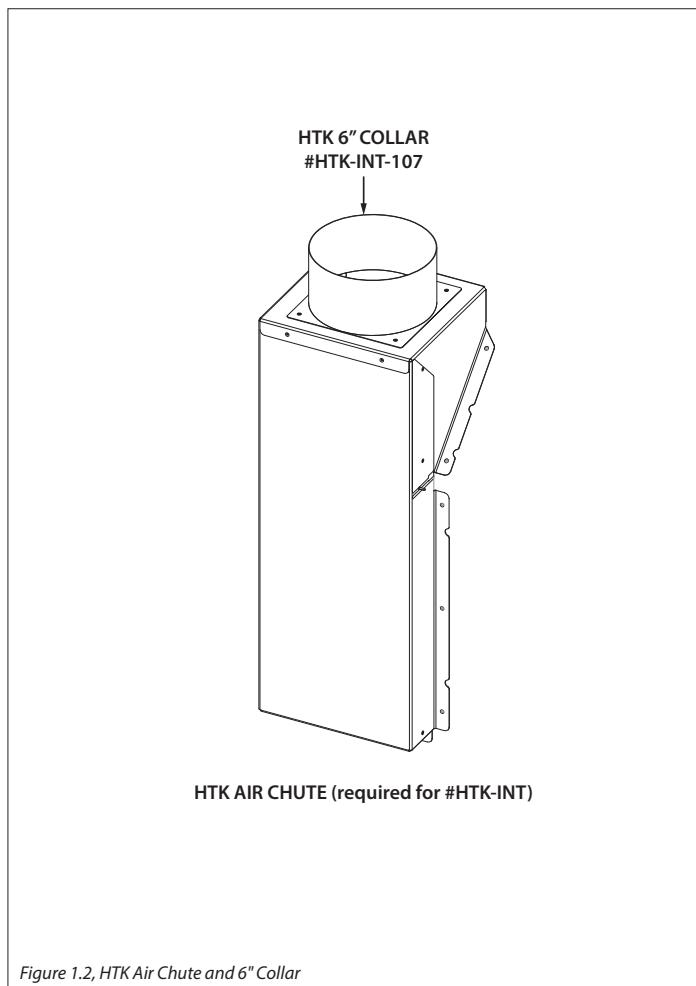

Figure 1.2, HTK Air Chute and 6" Collar
- (1) air chute is needed per heat transfer kit.
- Order model specific air chute. Yours may look different than what is shown in Figure 1.2.